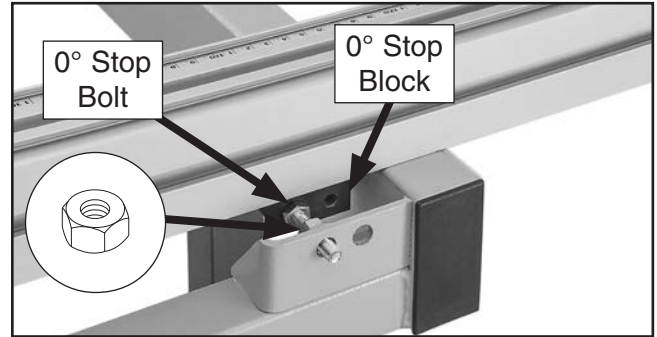

Figure 161. Stop block against 0° stop bolt.
3. Move crosscut fence stop block against 0° stop bolt, then tighten angle scale knob bolt to secure fence in place (see **Figure 161**).
8. Loosen hex nut on 0° stop bolt (see **Figure 161**), rotate 0° stop bolt to square crosscut fence, then tighten hex nut.